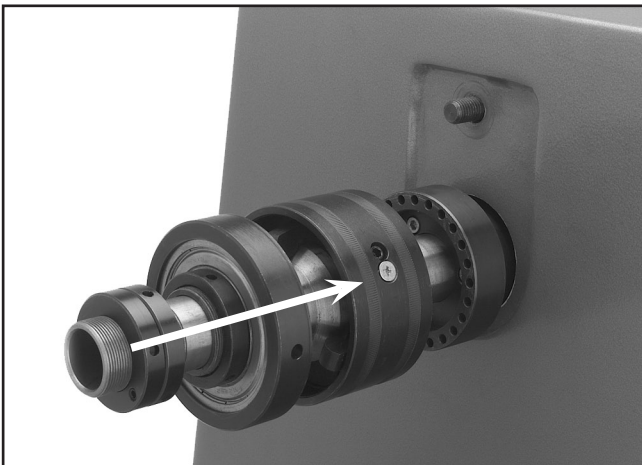

Figure 6. Draw tube assembly inserted.
1. Insert the draw tube assembly into the outboard spindle as shown in **Figure 6**. Slide the draw tube assembly all the way into the outboard spindle until it engages around the hub adapter.